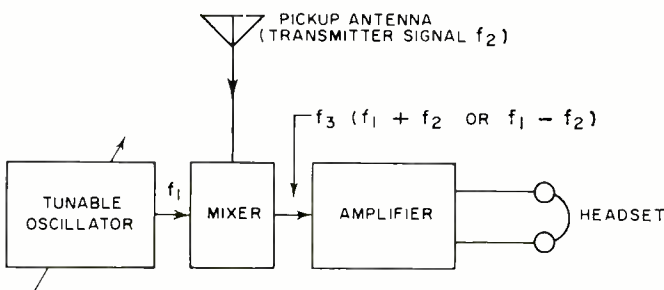

Fig. 1. A continuously tunable heterodyne frequency meter can be in error by any harmonic of its internal oscillator.
A typical frequency meter of this type consists of a tunable oscillator, a mixer, and a beat-frequency amplifier, as illustrated in Fig. 1. The transmitter signal (unknown frequency) is picked up and mixed with a harmonic of the instrument's tunable oscillator. When the oscillator is timed to obtain an aural zero beat, the dial reading is noted and reference is made to a chart to determine frequency.
Fig. 1. (A) Simplified circuit of the Blonder-Tongue BTU-2T u.h.f. converter shows what each section contributes to the over-all circuit. (B) I.f. neutralization circuit. (C) Simplification of the r.f. circuit as used in this u.h.f. converter.